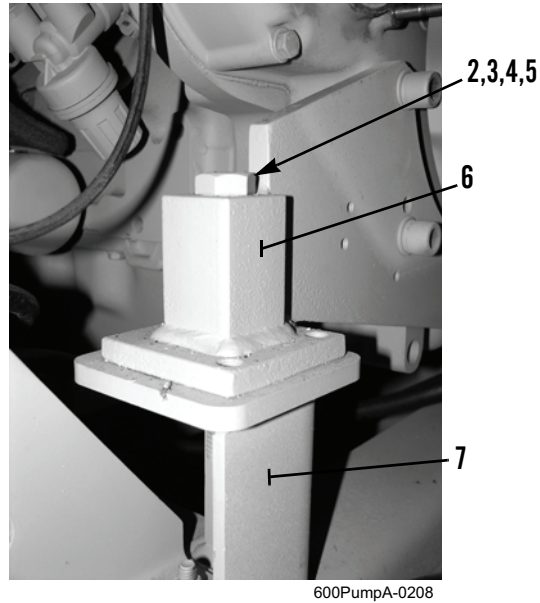

Figure 2. Right Side of Front Engine Mount.
2. Remove locknut (Figure 2, Item 2), lockwasher (Figure 2, Item 3), washer (Figure 2, Item 4), and bolt (Figure 2, Item 5) from each side of engine crossbeam (Figure 2, Item 6) and frame (Figure 2, Item 7). Discard lockwashers and locknuts.
3. Secure each side of engine crossbeam (Figure 2, Item 6) to frame (Figure 2, Item 7) with bolt (Figure 2, Item 5), washer (Figure 2, Item 4), new lockwasher (Figure 2, Item 3), and locknut (Figure 2, Item 2).